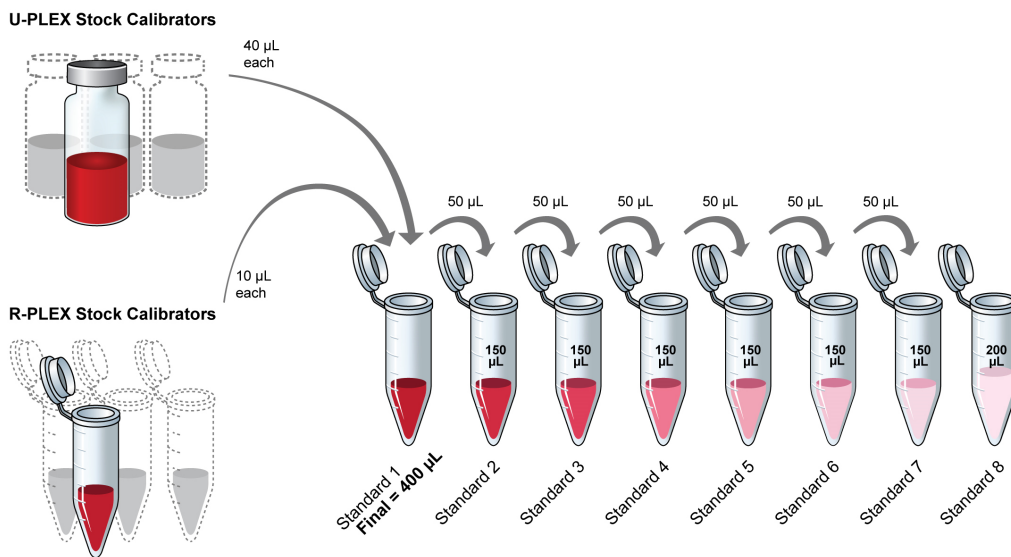

Figure 5. Dilution schema for preparation of Calibrator Standards for multiplex assays.
4. Prepare eight Calibrator Standards (7 calibrator solutions plus a zero calibrator) for R-PLEX and/or U-PLEX calibrators (Figure 5, Table 9):